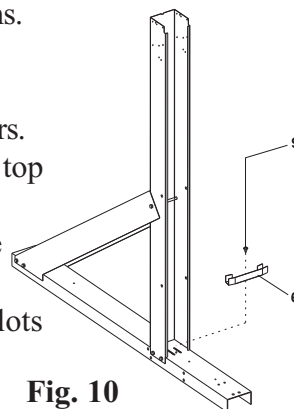

Fig. 10
D) Now you can install the straight side bottom rail connectors. Use one per strap end channel. Place the connector on top of the strap end channel so that the open part of the connector sits inside the straight side upright. The hole in the See Fig. 10 for visual instructions straight side connector will line up with the hole between the two slots on the strap end channel. Secure the piece using a #12 x 3/4" screw. See Fig.10 for visual instructions.